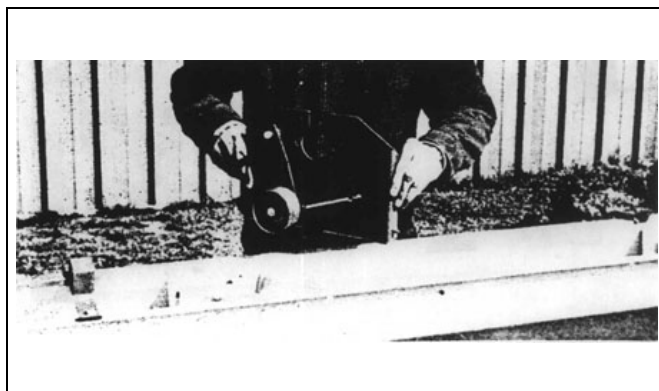
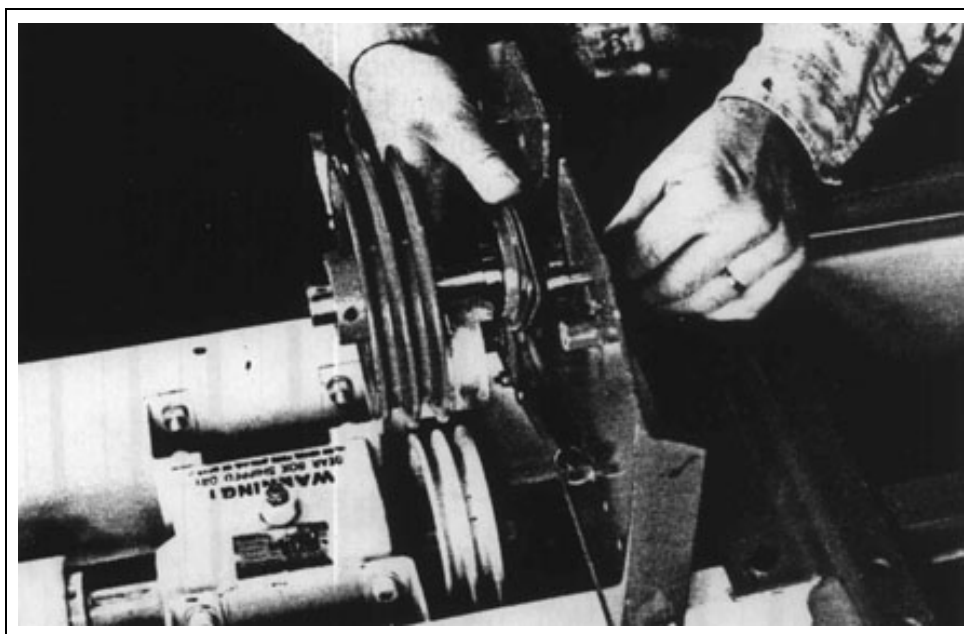

Figure 4T
Figure 4U
Installation of gearbox drive belts - **6 Auger Unit:** First, follow the instructions given for the 4 auger unit. Then, proceed to bolt bearing bracket and clutch idler on to the top of the 6 auger trolley. (See Figure 4T and Page 60.) Next, bolt 6 auger extension drive shaft into place, using two (2) carriage bolts, 5/16" x 3/4", with lock washers and nuts. DO NOT TIGHTEN THE 5/16" x 3/4" CARRIAGE BOLTS AT THIS TIME. BE SURE BEARING IS BOLTED IN POSITION AS SHOWN IN Figure 4U.